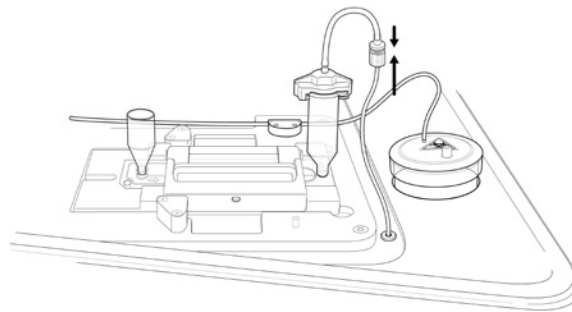

Fig. 29. Attach the vacuum tubing to the Backflow Adaptor tubing.
4. Attach the vacuum tubing from the Genesis to the Backflow Adaptor tubing (Figure 29).